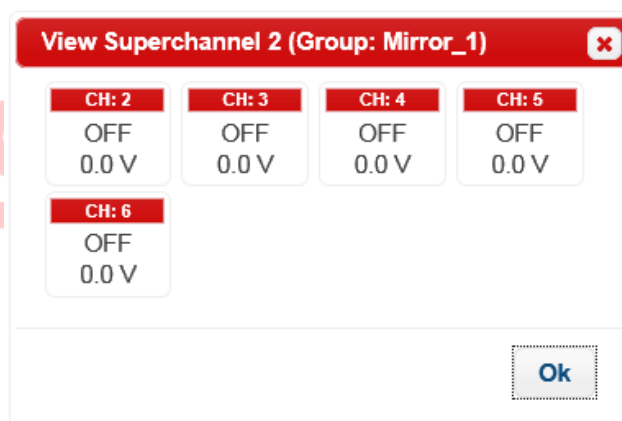

Figure 21: the “zoom”  dialog box (e.g. superchannel 2)
- the “zoom”  button (only for superchannels) gives access to a dialog box that indicates that presents the channels associated to the superchannel. This dialog box is shown in **Figure 21**.